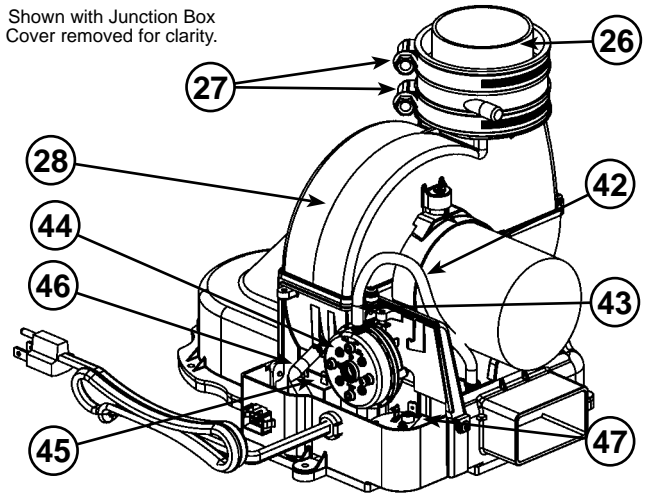

Figure 54.
- 26 \*\*\*\*Rubber Coupling (see Figure 5) (see also Figure 54)
- 27 Gear Clamp (see Figure 5) (see also Figure 54)
- 28 \*\*\*Blower with Power Cord (see Figure 5) (see also Figure 54)
- 42 Air Tubing (Intake) (see Figure 5) (see also Figure 54)
- 43 Blower High Limit Switch (see Figure 5) (see also Figure 54)
- 44 Intake Air Pressure Switch (NC) (inside box) (see Figure 5) (see also Figure 54)
- 45 Capacitor (see Figure 5) (see also Figure 54)
- 46 Air Tubing (Exhaust) (see Figure 5) (see also Figure 54)
- 47 Exhaust Air Pressure Switch (NO) (inside box) (see Figure 5) (see also Figure 54)